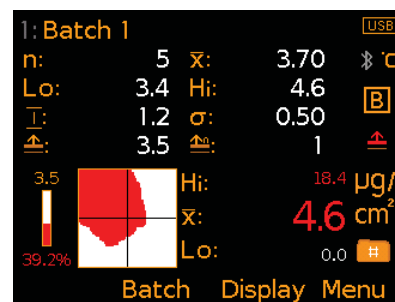

Fig. 7: Statistics & Pass/Fail Map
- Pass/Fail Map^a** (Fig. 7); Provides a visual indication of salt contamination. Areas where soluble salts levels are above the limit set are shaded red, areas below the limit are white. The measurement bar to the left of the pass/fail map displays the limit (above the bar) and the percentage test area above the defined limit (below the bar). The bar is also a visual indication of the pass/fail percentage. The highest (Hi), lowest (Lo) and average (\bar{x}) reading for the current measurement are displayed to the right.